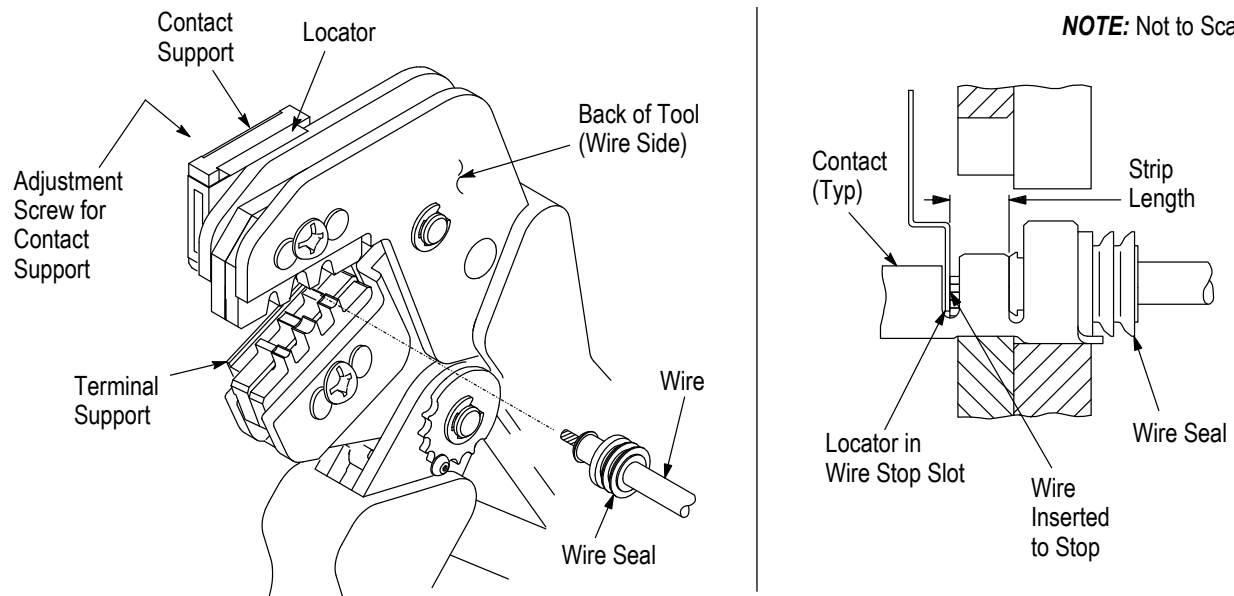

Figure 3
4. CONTACT SUPPORT ADJUSTMENT (Figure 3)
Refer to the table in Figure 1 and select wire of the specified size and insulation diameter. Strip the wire to the length indicated in Figure 1, taking care not to nick or cut wire strands. Select an applicable contact and identify the appropriate crimp section according to the wire size markings on the tool. Refer to Figure 3 and proceed as follows:
3. Position the contact so that the mating end of the contact is on the locator side of the tool, and so that the open "U" of the wire and insulation barrels must face the top of the tool. Place the contact up into the nest so that the movable locator drops into the slot in the contact. Refer to Figure 3. Butt the front end of the wire barrel against the movable locator.
5. Insert stripped wire (with the wire seal) into contact insulation and wire barrels until it is butted against the wire stop, as shown in Figure 3.
The crimped contact may stick in the crimping area, but the contact can be easily removed by pushing downward on the top of the locator (see Figure 3).